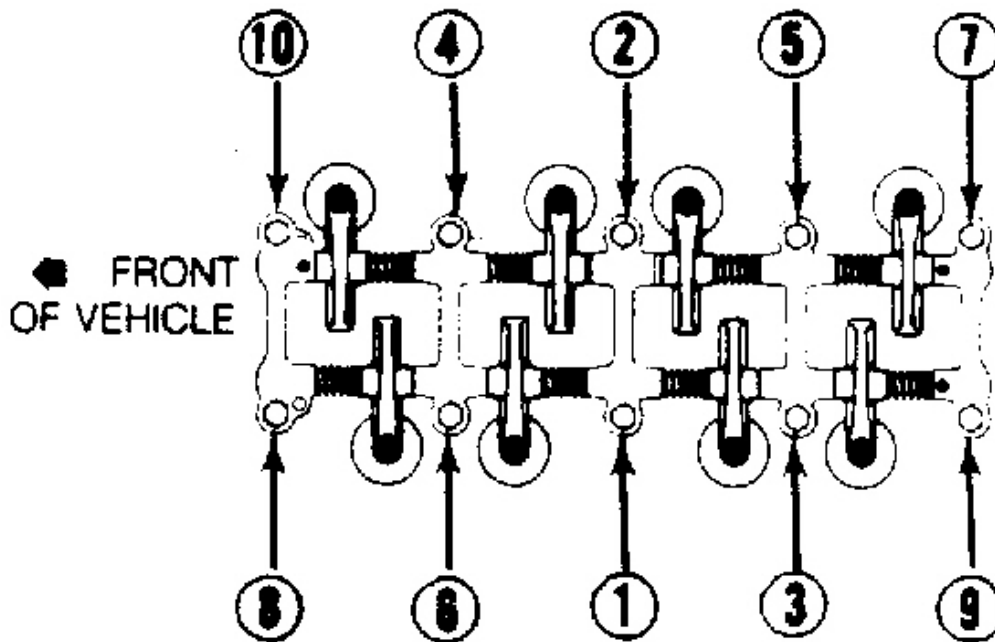

Fig. 1: Cylinder Head/Rocker Arm Bolt Tightening Sequence
6. Loosen cylinder head bolts, in 2 or 3 stages, in reverse of tightening sequence. See **Fig. 1** . Remove rocker arm assembly. If necessary, pry equally at front and rear of rocker arm assembly to remove.
2. Install rocker arm assembly over locating dowels and tighten head bolts in 3 steps. See **Fig. 1** . Continue installation in reverse of removal sequence. Ensure valve and ignition timing is properly set. Adjust valves.